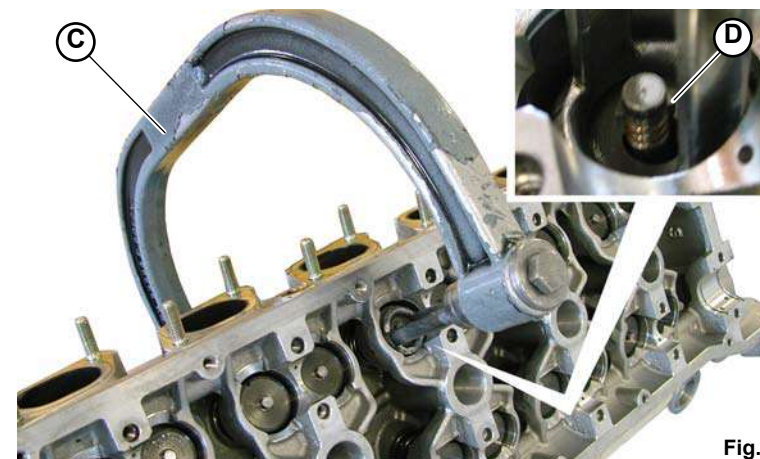
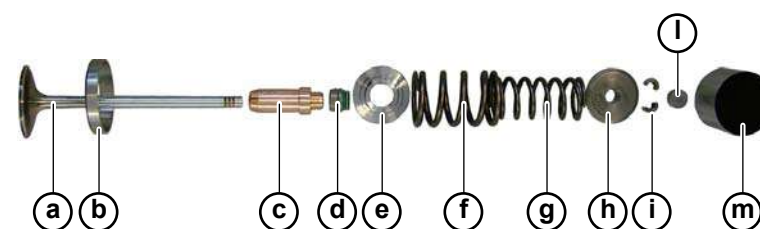

Fig.3
Fig.4
- Using the special tool (**C-Fig.3**), press the spacer ring to extract the 2 cotters (**D-Fig.3**).
- Remove the cotters (**D-Fig.3**), then the tool, followed by the entire valve unit (**Fig.4**):
5. Position the spacers (**C-Fig.3**) above the upper spacer rings.
6. Remove the tappets (**D-Fig.3**) from their housings.